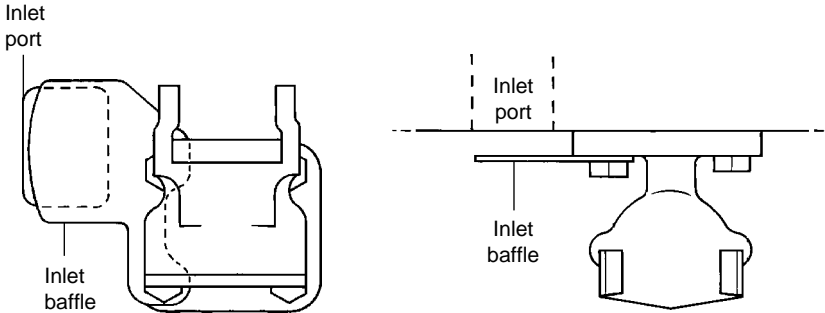

Fig. 10
- Unscrew the 4 bolts or nuts (7).
- Remove the main valve assembly (5) and gasket (6).
- Fit the new gasket (6) and the main valve assembly (5), including the baffle plate (see page 16, Figs. 10 and 11).
- Tighten the bolts or nuts (7) evenly (see Table 1 for recommended tightening torques).